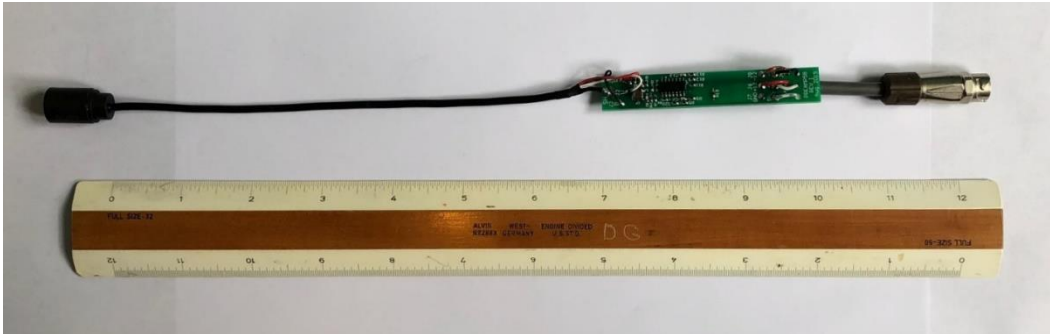

Fig. 5 Microphone preamplifier assembly after Steps 1–3
- 3) Apply conformal coating to both sides of the preamplifier PCB according to instructions and let it cure completely before going on to the next step (Fig. 5).